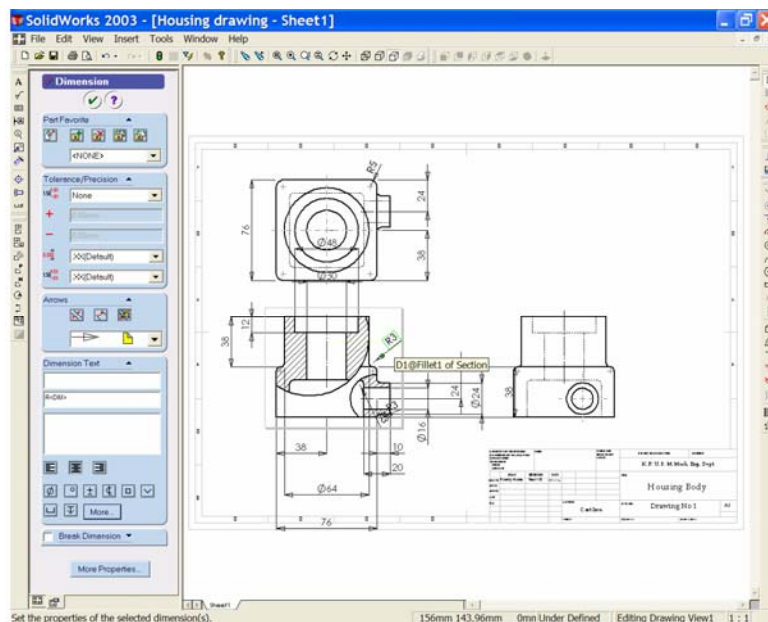

Figure 34
30. First, we should hide dimensions that may be given in a note. The most suitable note dimension is the R3 fillet. **Place the cursor over one of the R3 fillet dimensions and right click.** See Figure 34.